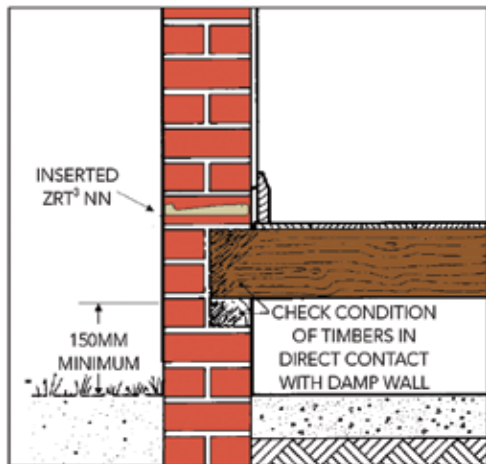

Figure 2. Check embedded timber for decay
- 10.2 Where a suspended timber floor is supported on joists and /or a wallplate bearing on, or embedded in, the wall, there is a possibility of decay, particularly where concealed timbers are in contact with the damp wall. The condition of these timbers should be ascertained and remedial action taken if necessary. (see figure 2)